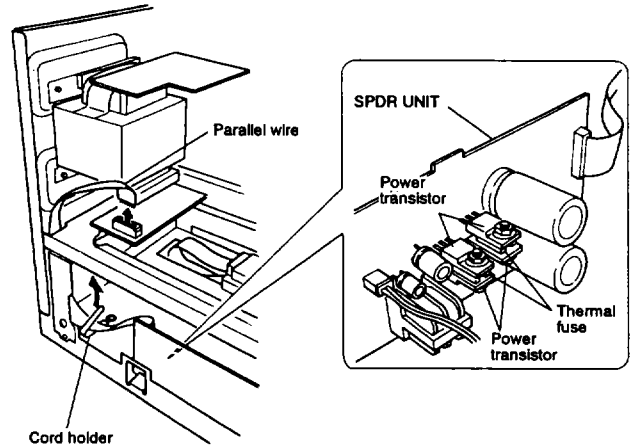

Fig. 6
2. Loosen a cord holder and remove a parallel wire. (Fig. 6)